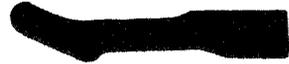

Fig. 18 - NS16576 L6 Plate Designation
4.13 The NS16576 L6 Plate Designation consists of a red plastic insulator detail, Fig. 18, designed to protect test contacts on 300 connectors.